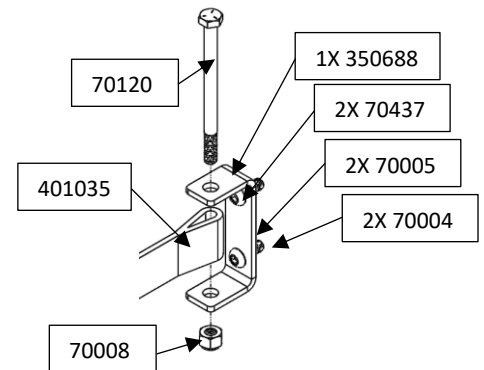

Figure 16: Complete Door Stop Install
27. Thread the other side of the door stop strap into door jam bracket (installed in step **Error! Reference source not found.**) using  $\frac{1}{4}$ "-20 x 3" bolt and  $\frac{1}{4}$ "-20 nylock nut (Figure 16).